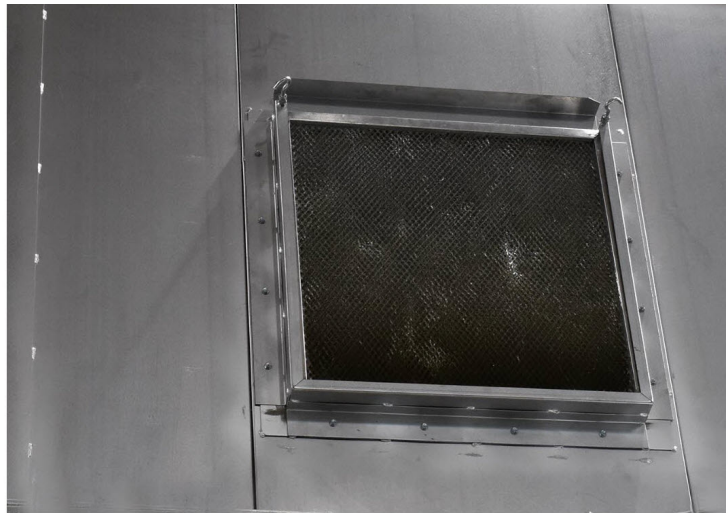

Figure 11. Auxiliary Air Intake
2. Auxiliary intake with adjustable slide plate (Figure 11).